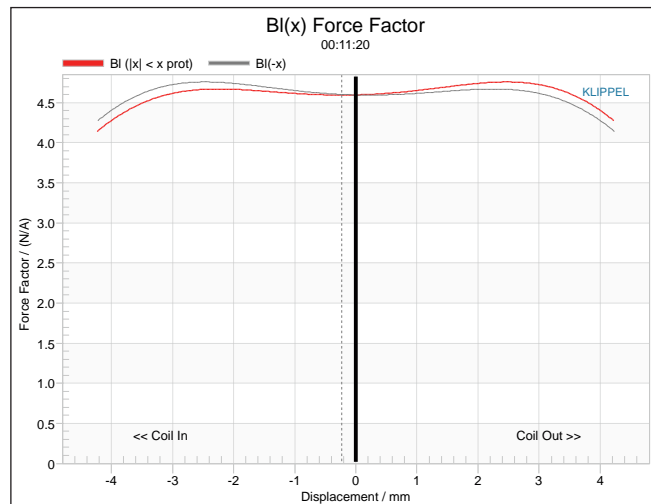
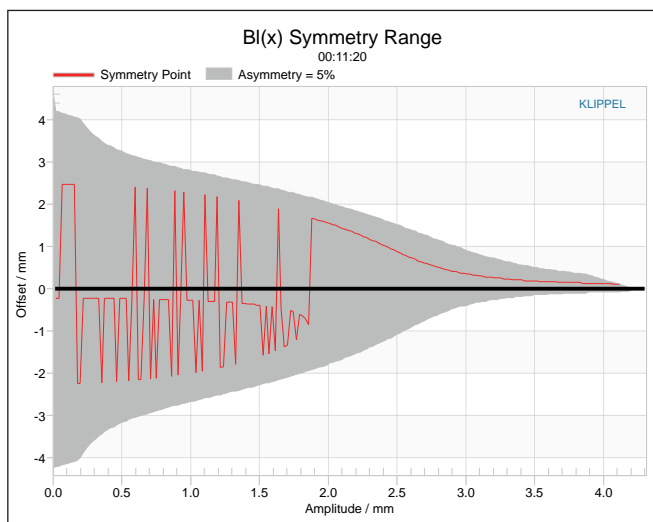

Figure 5: Klippel Analyzer BI(X) curve for the TB Speaker W4-2356
Figure 6: Klippel Analyzer BI symmetry range curve for the TB Speaker W4-2356
Kms(X), and BI and Kms symmetry range plots given in **Figures 5-8**. The BI(X) curve for the W4-2356 (Figure 5) is relatively broad and symmetrical with a fairly minor amount of offset to the curve, which is not bad for a short X_{max} 4" diameter driver. Looking at the BI symmetry plot (Figure 6), this curve reveals a decreasingly small amount of positive coil-out (forward) offset that gets to a trivial 0.19mm at the physical 3.45mm ($X_{max} + 15\%$) position.